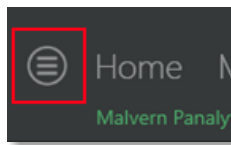

Figure 6: Application Menu button
1. Click on **Application Menu** button (*Figure 6*)